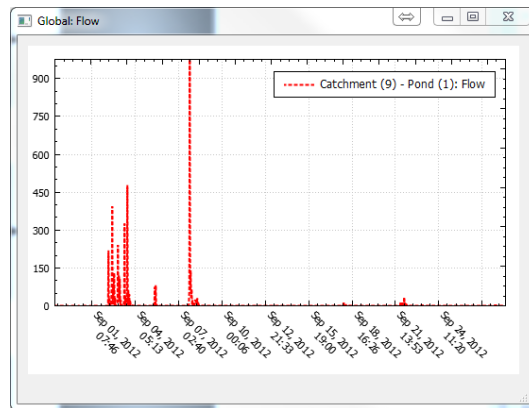

Figure 3: Runoff rate leaving the catchment
8. Save the model and run it. After the simulation is done, check the hydraulic and water quality results by right-clicking on blocks or connectors (Figure 3).